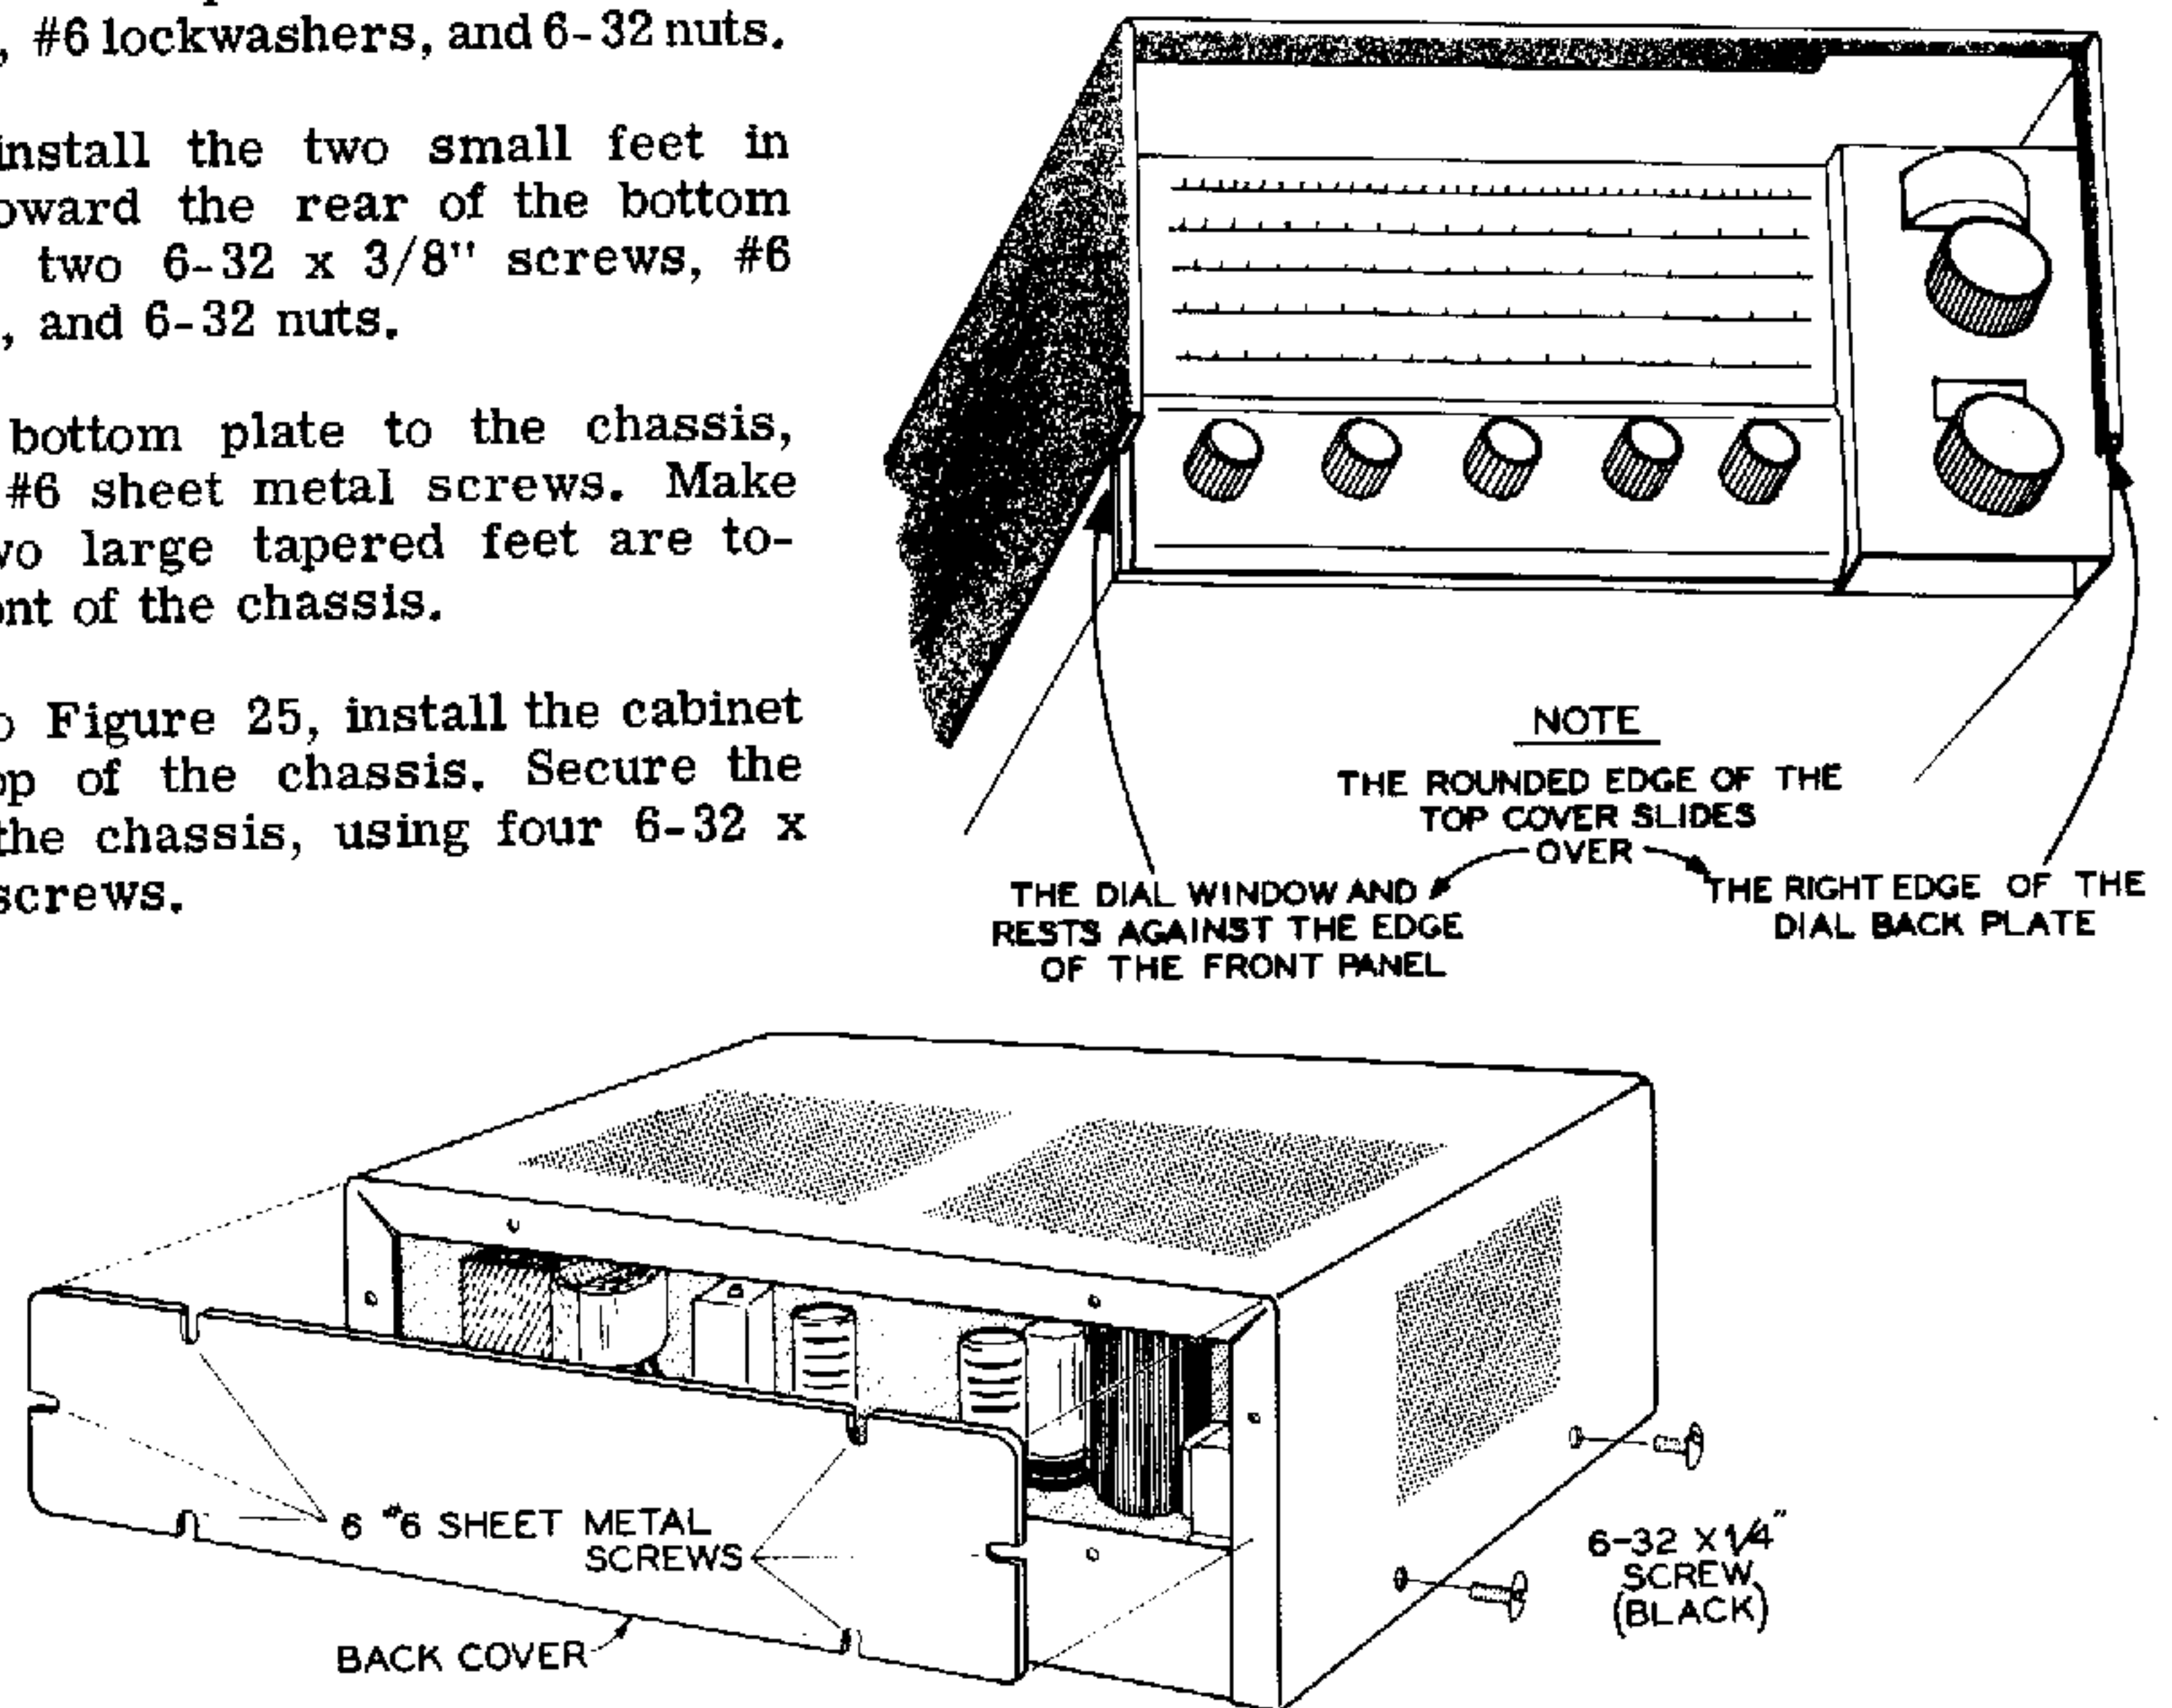

Figure 25
- () Referring to Figure 25, install the cabinet over the top of the chassis. Secure the cabinet to the chassis, using four 6-32 x 1/4" black screws.